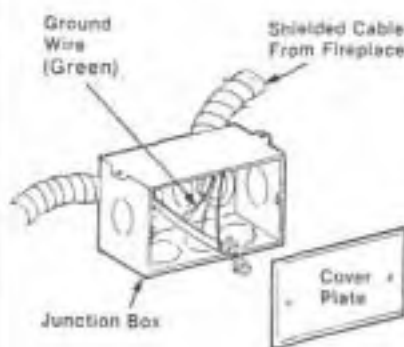

Figure 17
Step 9: Attach the shielded cable, containing the black, white and green wires to the pre-wired junction box. Secure the wires with the appropriate wirenuts. Attach coverplate to the junction box (Figure 17).